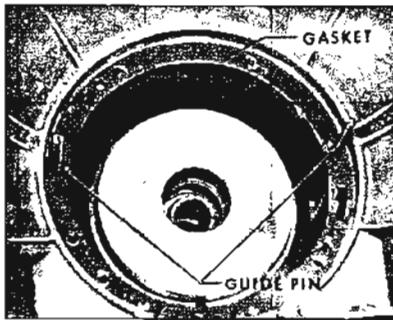

Figure 5-324
2. Install new pump gasket and guide pins. See Figure 5-324.